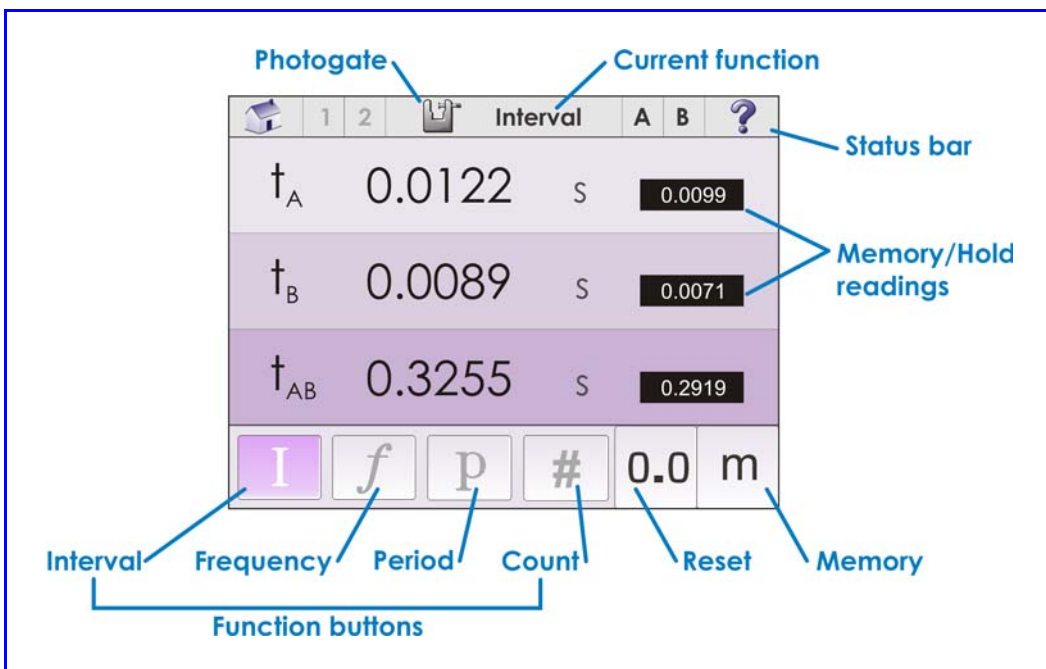
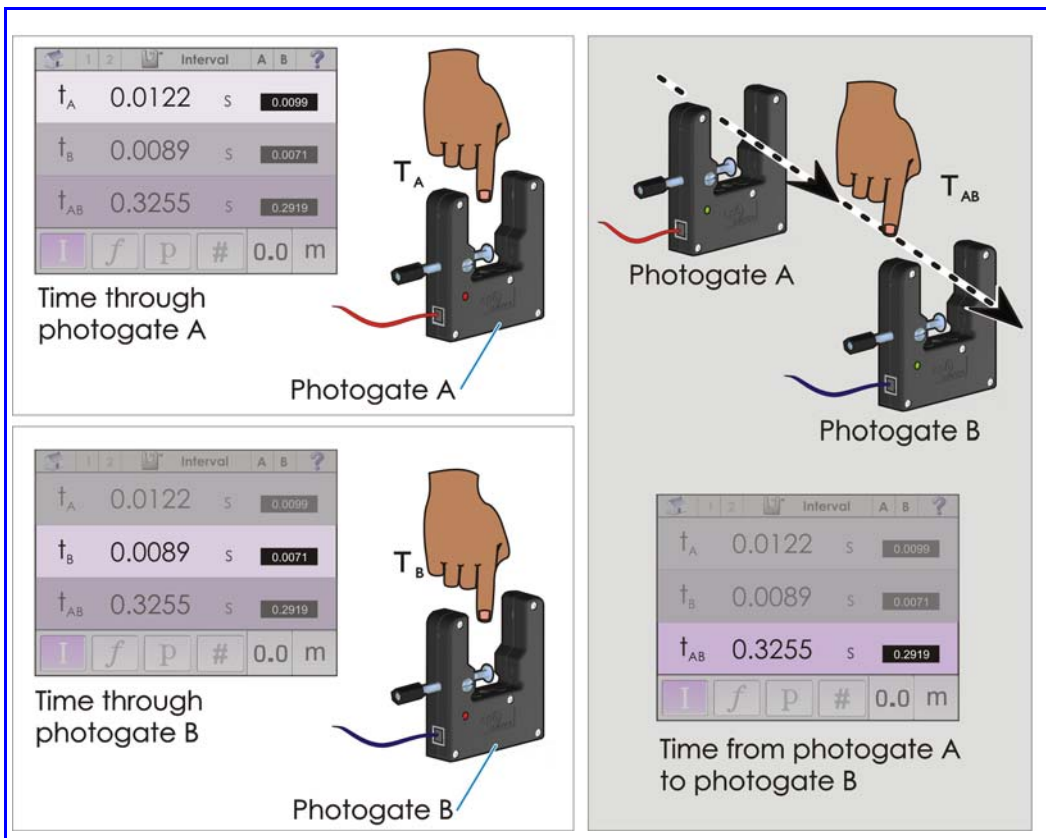

Figure 13: CPO Timer Mode: Interval Function
Figure 14: Time Intervals and Photogates
There are four different functions in *CPO Timer Mode*: Interval (I), Frequency (f), Period (p) and Count (#). The function is selected by tapping the desired function button at the bottom of the screen. The current function is noted in the status bar. See Figure 13.
The *Interval Function* uses one or two photogates to record time intervals. This window is displayed in Figure 13. There are three ways to use the *Interval Function*: using Photogate A only, using Photogate B only, or using both Photogate A and Photogate B. These uses are depicted in Figure 14 on page 19.